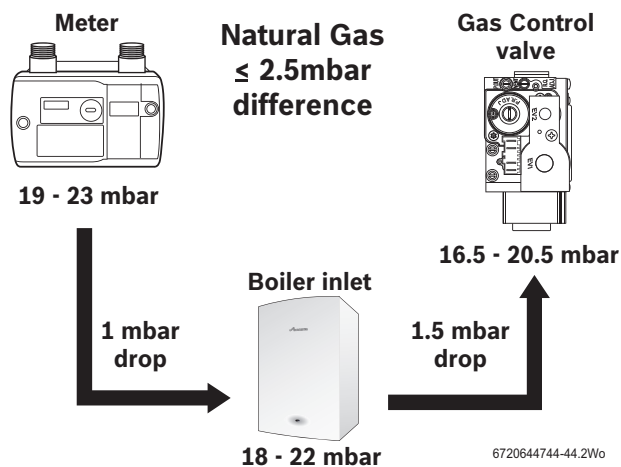
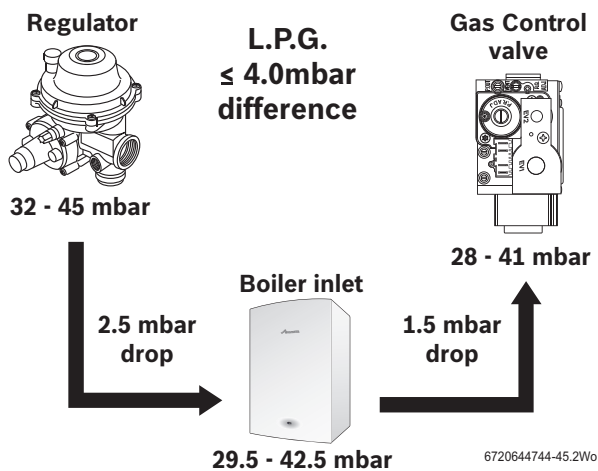

Fig. 56 Natural gas pressures
Fig. 57 L.P.G. pressures
- ▶ Check the gas supply working pressure at the gas valve conforms to values shown in Fig. 56 or Fig. 57.